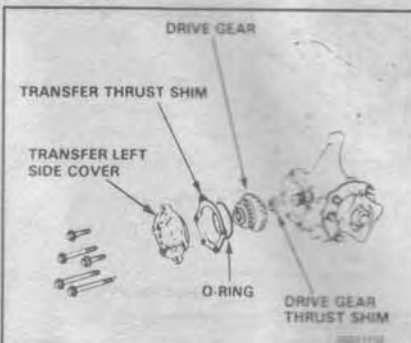

Fig. 133 Remove the transfer case side cover on 4WD Wagons before removing the oil pan
▶ See Figures 133, 134 and 135